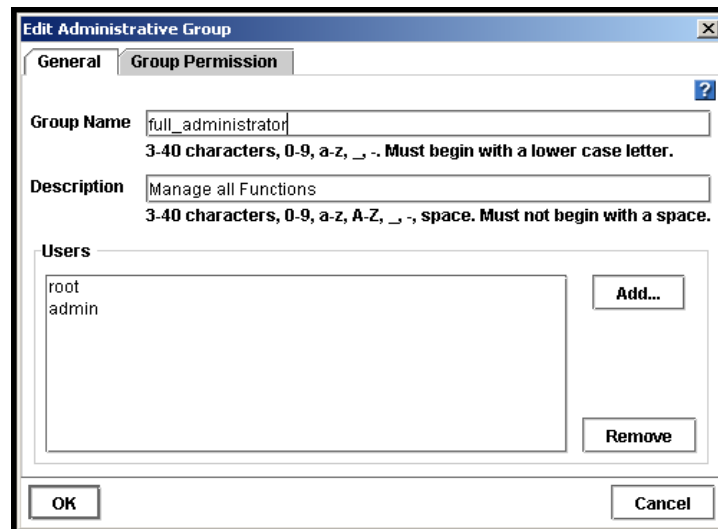

Figure 101. Editing an Administrative Group
3. Click Edit. The Edit Administrative Group window opens, shown in Figure 101.